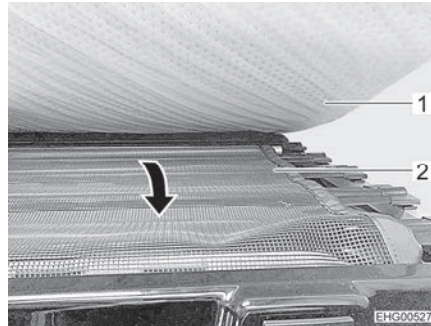

Fig. 92 Safety net
- Pull out the safety net (Fig. 92,2) from under the mattress (Fig. 92,1) and stretch it over the access orifice.